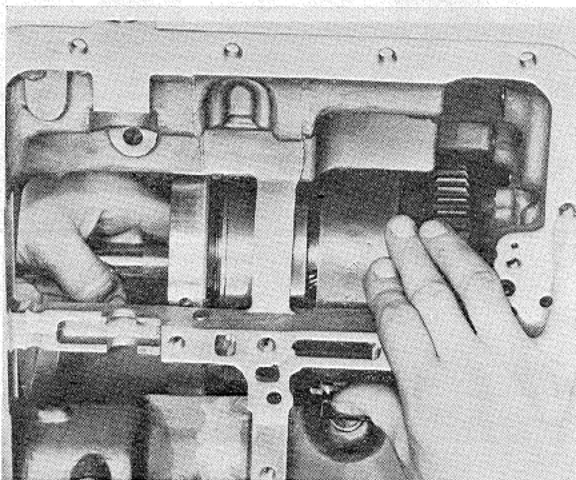

Fig. 52. Withdrawing centre support and planet gears
32. From the outside of the transmission case remove the two centre support screws, see Fig. 51. Withdraw the centre support and planet gears, see Fig. 52. Take out the rear brake band. Separate the centre support, one-way clutch and planet gears. Remove the snap ring and the outer race of the one-way clutch.